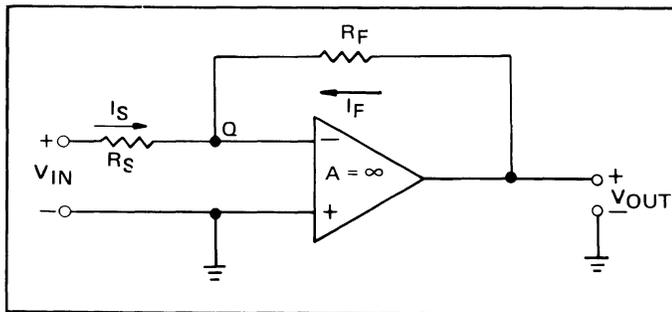

Figure 1. The “Ideal” Operational Amplifier as a Feedback Amplifier.
The key features of operational amplifier application can be illustrated using the simple feedback circuit of Figure 1, and assuming that the operational amplifier has infinite gain and infinite input impedance. Then, the following two conditions have to be satisfied:
- a) Since the voltage gain is infinite, the net voltage across the input terminals of the operational amplifier must be zero, if the operational amplifier output voltage is to be finite. In the circuit of Figure 1, this causes the inverting input terminal of the operational amplifier to behave as a “virtual ground”.
- b) Since the input impedance of the ideal operational amplifier is infinite, no input current is drawn by the operational amplifier, the total current going into the circuit node connected to the inverting input of the operational amplifier (node Q in Figure 1) must be equal to the total current coming out, i.e.: